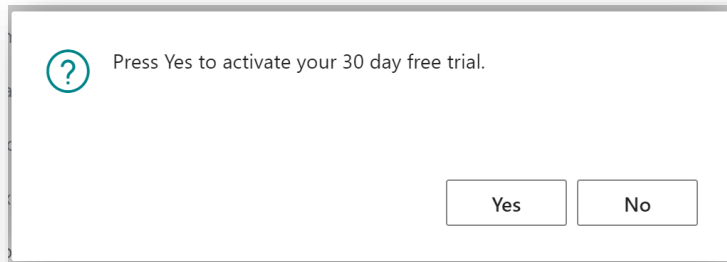

Figure 4-14
4. You are then prompted to choose **Yes** to activate your free trial. Choose **Yes** (Figure 4-14).